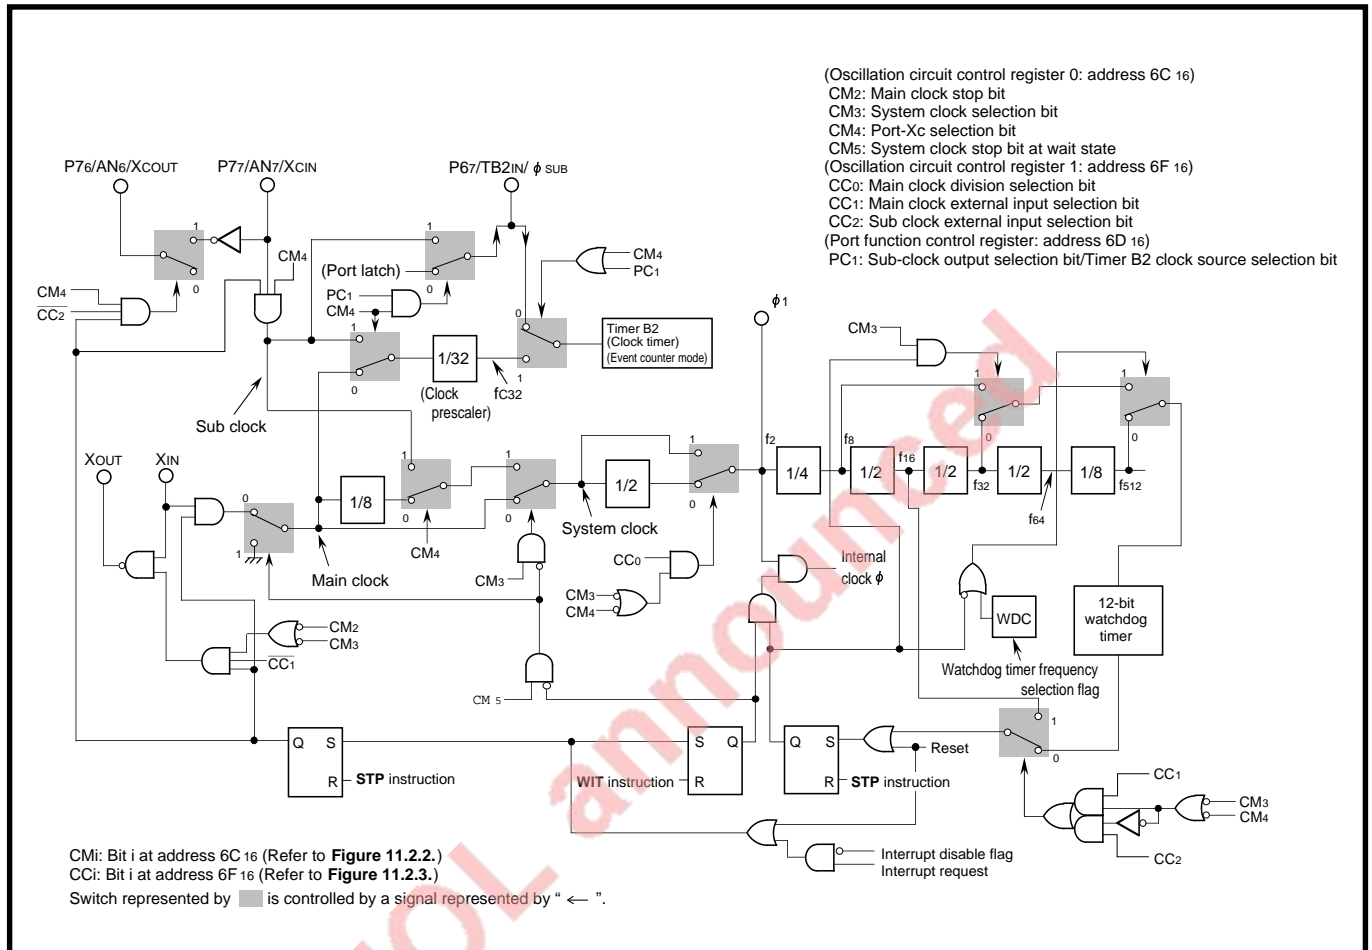
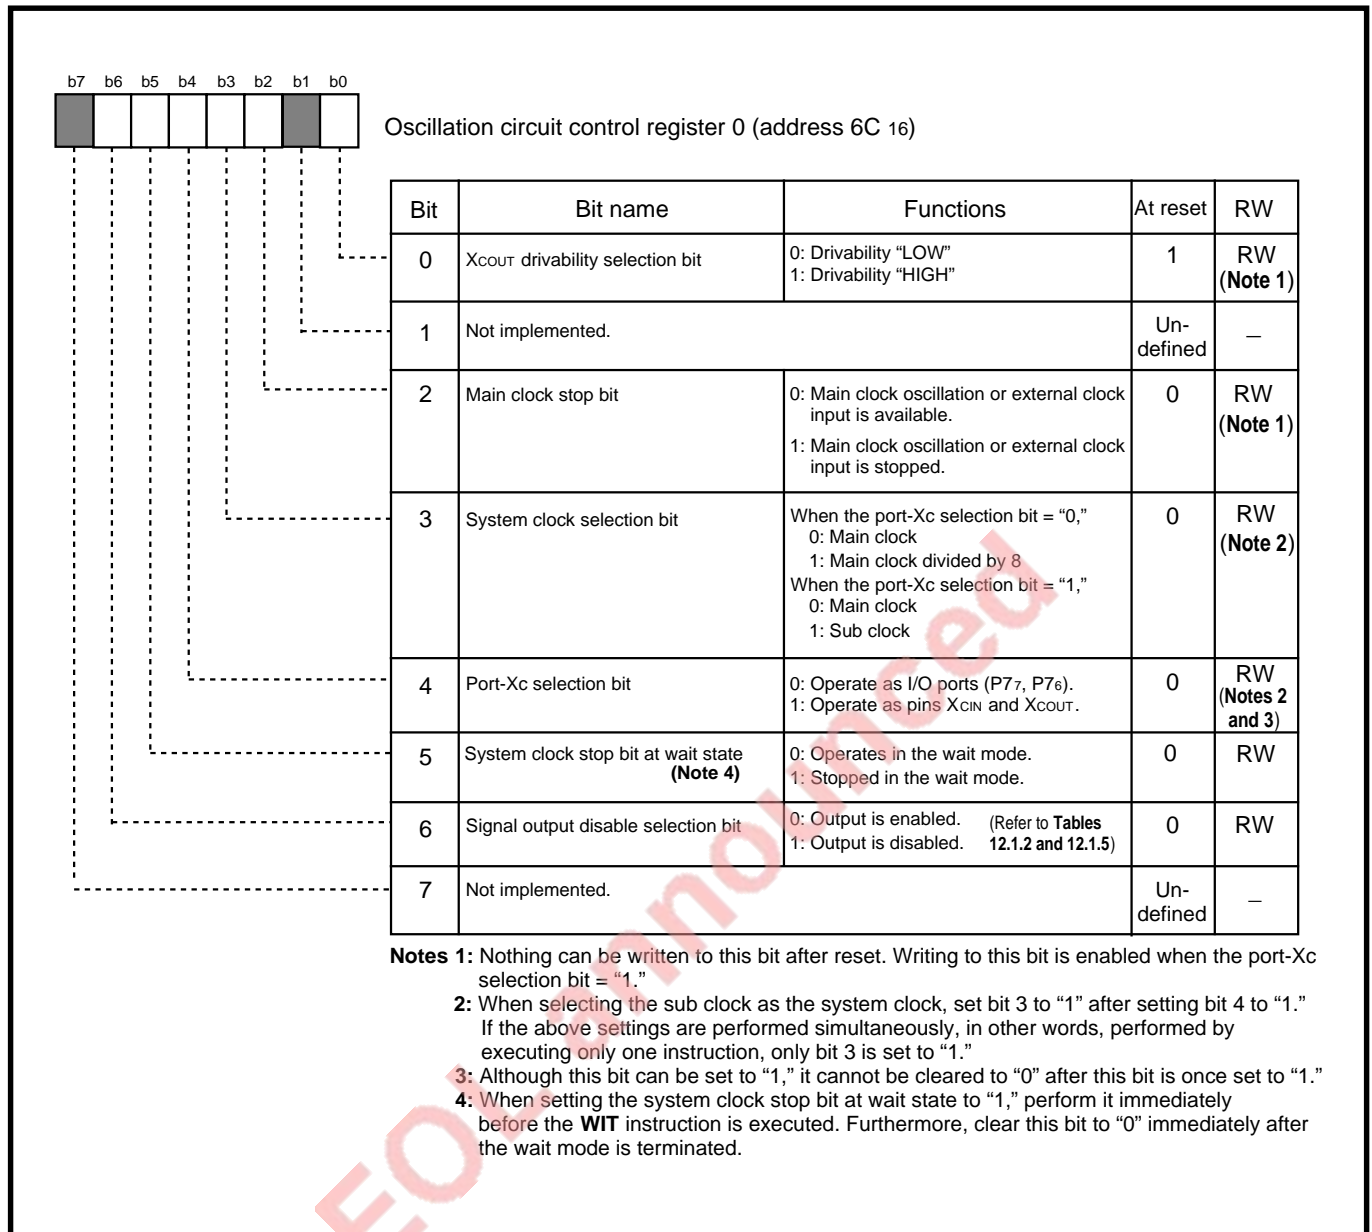
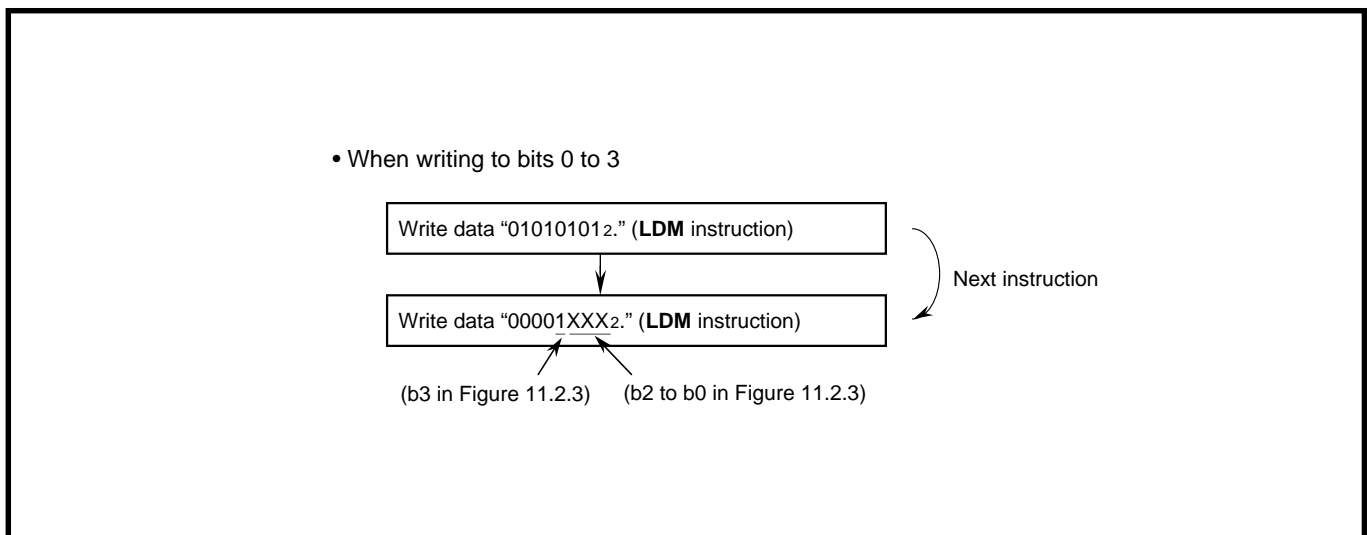

Fig. 11.2.1 Block diagram of clock generating circuit (with STP and WIT instructions)
Fig. 11.2.2 Structure of oscillation circuit control register 0
Fig. 11.2.4 Procedure for writing data to oscillation circuit control register 1
Clocks f2 to f512, clock  $\phi$ \*2: Refer to **Figure 11.2.1**.
Figure 11.2.1 shows the block diagram of the clock generating circuit (with the **STP** and **WIT** instructions). Figures 11.2.2 and 11.2.3 show the structures of the oscillation circuit control register 0 and oscillation circuit control register 1, respectively. Figure 11.2.4 shows the procedure for writing data to the oscillation circuit control register 1.
Clocks  $f_2$  to  $f_{512}^{*1}$ , clock  $\phi_1^{*2}$ : Refer to **Figure 11.2.1**.
- ① When an interrupt request occurs, an oscillator starts oscillating. Simultaneously, supply of clocks  $f_2$  to  $f_{512}$  starts.
- ② By start of oscillation, the watchdog timer starts counting. The watchdog timer counts  $f_{32}$  when the system clock selection bit (bit 3 at address 6C16; Refer to **Figure 11.2.2.**) = “0” or  $f_8$  when the system clock selection bit = “1.”
- ③ When the watchdog timer’s MSB becomes “0,” supply of internal clock  $\phi$  starts. At the same time, the watchdog timer’s count source returns to a count source (clock  $f_{32}$  or  $f_{512}$ ) which is selected by the watchdog timer frequency selection flag (bit 0 at address 6116).
- ④ The interrupt request which occurs in ① is accepted.